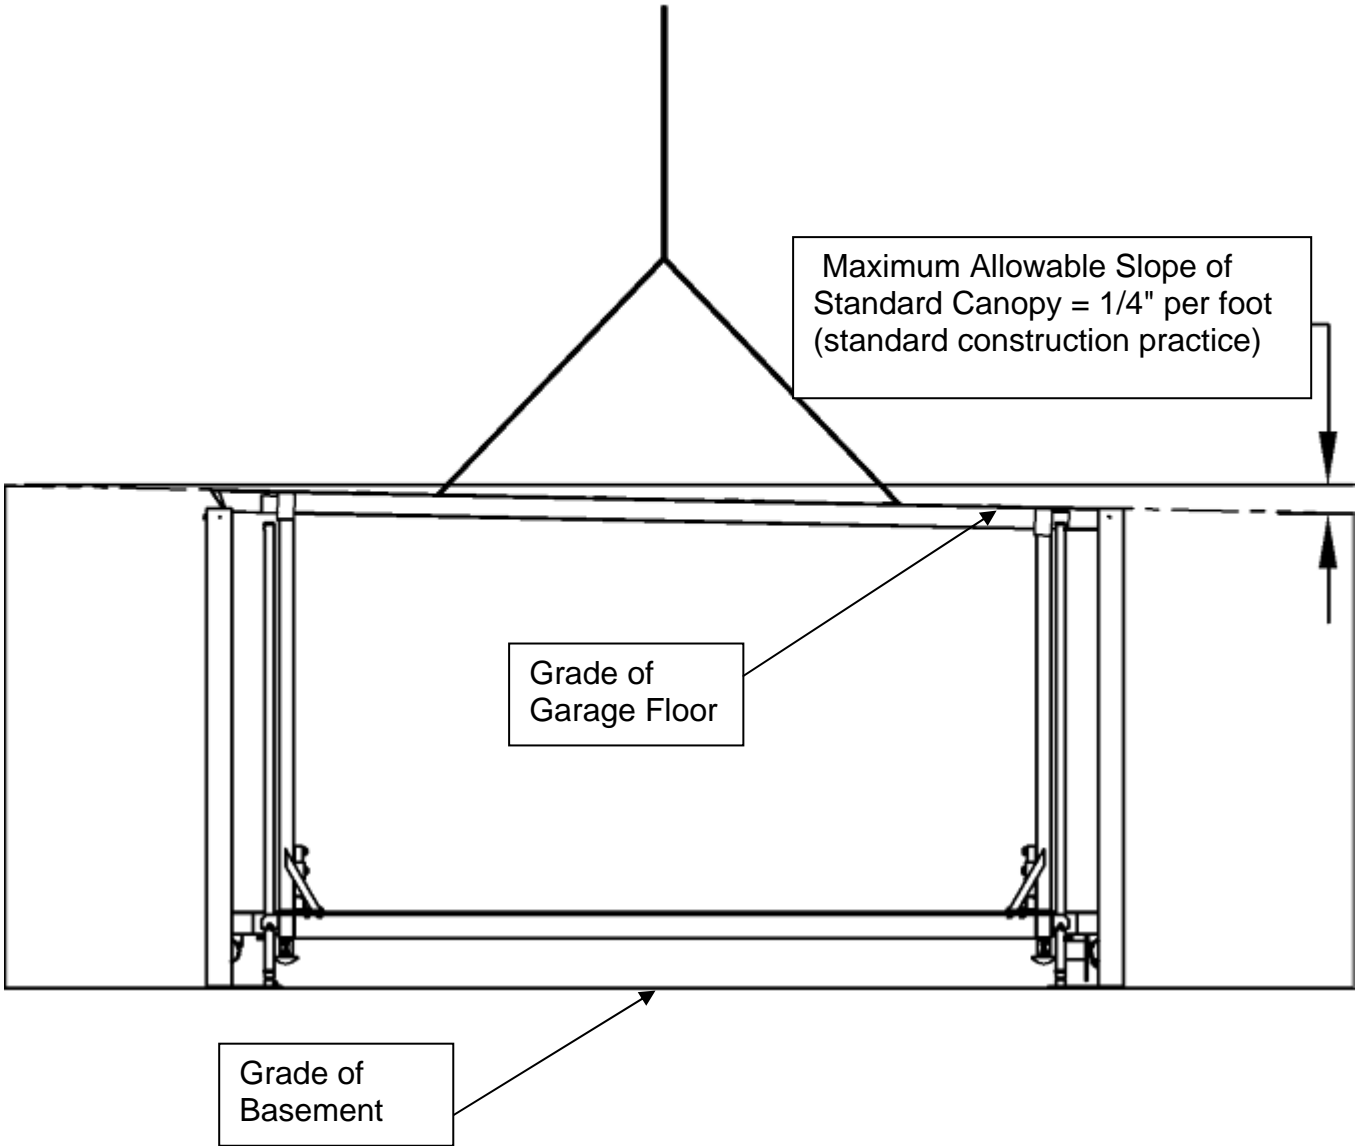

Figure 33 Adjusting Canopy to Match Grade of Garage Floor (Side View)
2. With the carriage leveled and in the fully lowered position, use the overhead hoist or crane to lift and adjust the slope of the top canopy to be flush with, and match the grade of, the surrounding garage/parking floor (reference **Figure 33**). Weld per General Arrangement drawing once complete.